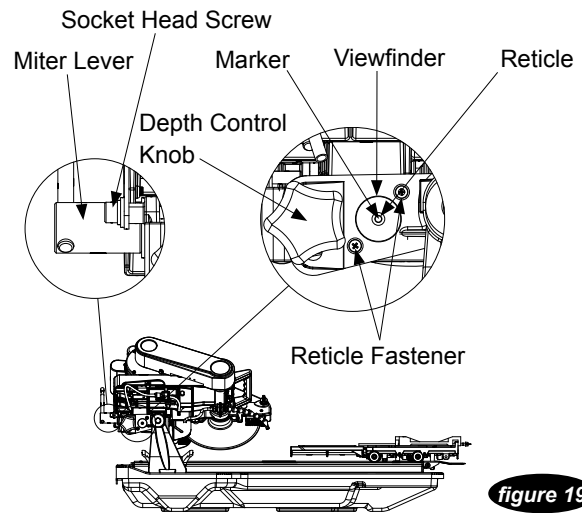

figure 19
3. Locate the viewfinder next to the post. Loosen the depth control knob and pitch the cutting head up or down until the marker is centered within the reticle. Lock the cutting head by tightening the depth control knob. (see **figure 19**)
4. Loosen the miter lever by hand and the socket head screw with the provided hex key. (see **figure 19**) Roll the head so that it rests at the miter position. Tighten the miter lever and socket head screw.